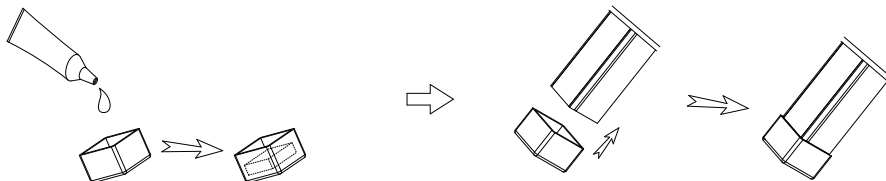
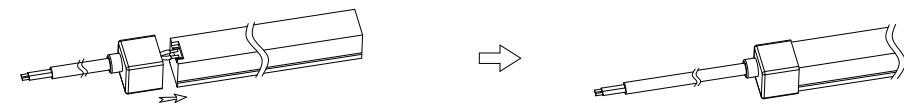

Figure 4
Figure 7
2. The plug will be filled with glue, and put the neon flex into the plug, the installation is complete, as shown in Figure 4.
5. Put the plug encased into the line, and repeat Figure 4 gluing steps, and then insert the neon flex into the plug, the installation is complete, as shown in Figure 7.